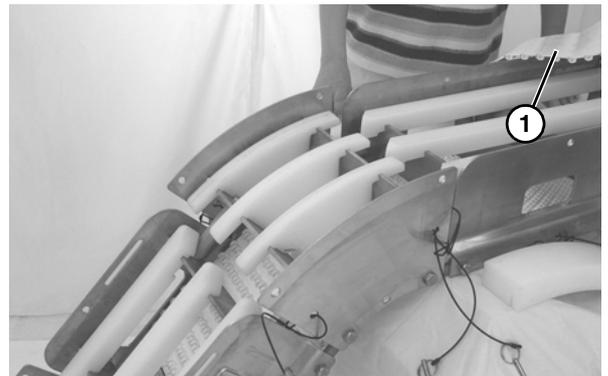

Figure 9
- Slide belt (**Figure 9, item 1**) over knuckles on top of the wear strips.